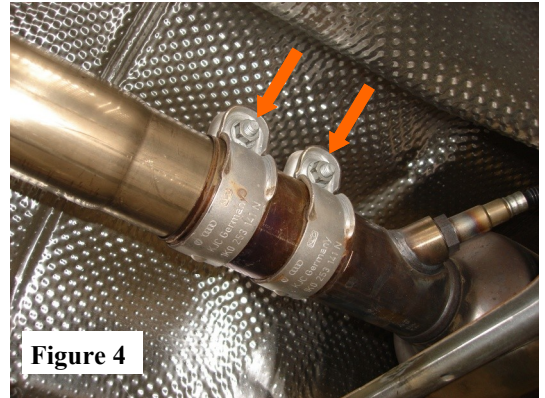

Figure 4
2. Position the front pipe assembly and insert your new exhaust pipe into the OE pipe. Connect the (2) hangars into the OE rubber isolators. Slide and position the OE clamp with the bolts accessible to tighten. (See Fig.4) Hand-tighten these bolts.